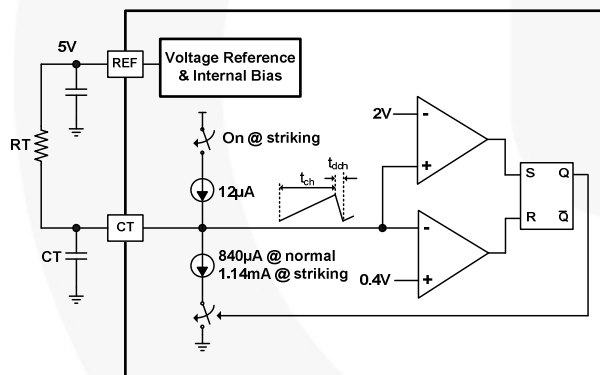

Figure 39. Main Oscillator Circuit
Main Oscillator: In normal mode, the external timing capacitor (CT) is charged by the current flowing from the reference voltage source, which is formed by the timing resistor (RT) and the timing capacitor (CT). The sawtooth waveform charges up to 2V. Once CT voltage reaches 2V, the CT begins discharging down to 0.4V. Next, the CT starts charging again and a new switching cycle begins, as shown in Figure 39. The main frequency is programmed by adjusting the RT and CT value. The main frequency is calculated as: